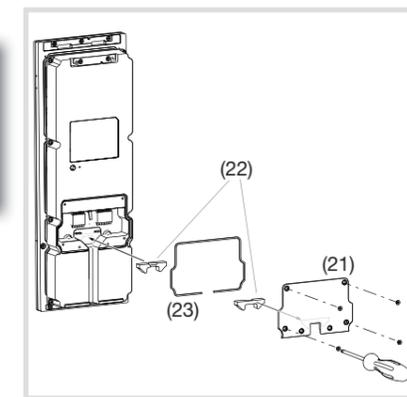

Fig. 29: Cable entry, outdoor station
- Stick the size of the two-part cable entry seal (22) required for the cables in the connection compartment cover plate (21) and in the connection compartment of the outdoor station. Then, insert the connection compartment seal (23) in the recess provided around the connection compartment and then close it by screwing on the connection compartment cover plate (Figure 29).